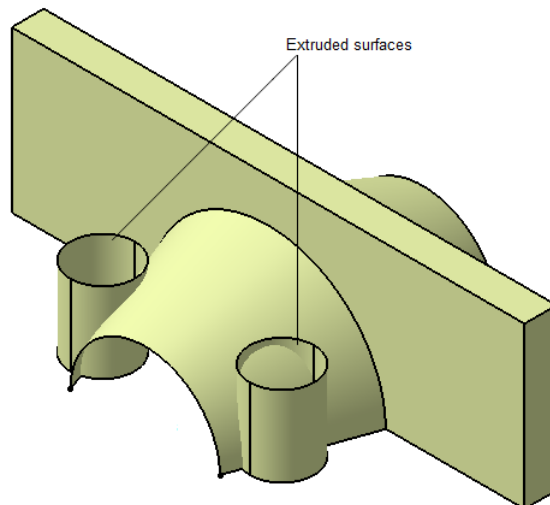

Figure 17-111 The extruded surfaces
2. Choose the **Extrude** tool from the **Surfaces** toolbar; the **Extruded Surface Definition** dialog box is displayed. Select the sketches using the **Profile** selection box, keeping the direction as default in the **Direction** selection box. Enter **40** in the **Dimension** spinner under the **Limit1 Type** drop-down list and enter **0** in the **Dimension** spinner under the **Limit2 Type** drop-down list and choose the **OK** button; the **Multi-Result Management** dialog box is displayed. Select the **keep all the sub elements** option from this dialog box and choose the **OK** button. Figure 17-111 shows the extruded surfaces.